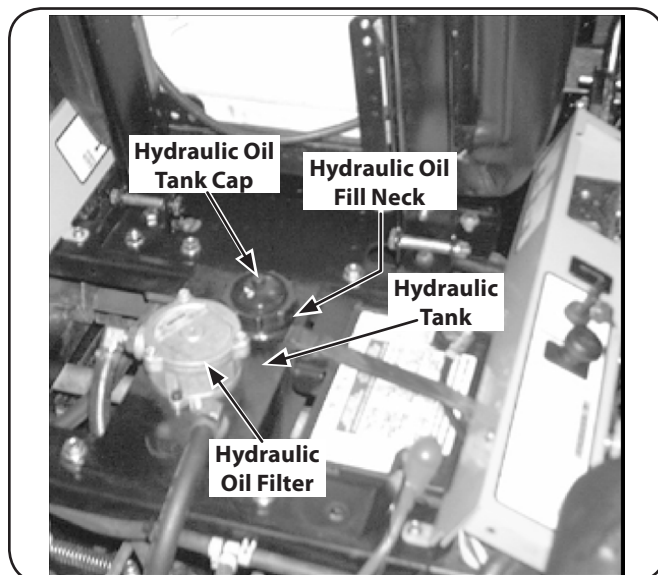

Figure 6-3
4. Clean the area around the hydraulic oil fill neck. See Fig. 6-3.
5. Remove the hydraulic fill cap and check the level. See Fig. 6-3. The correct level is up to the lowest hole of the oil tank fill neck.